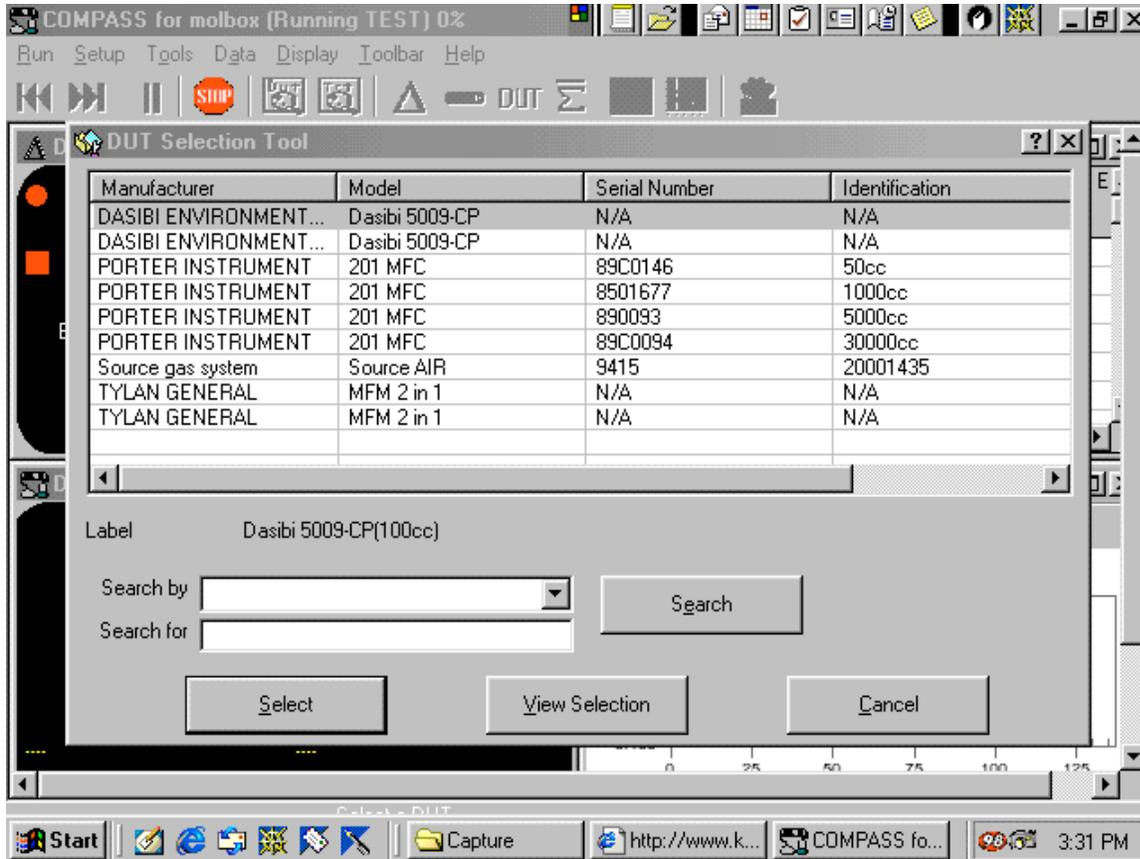

Figure 21 - Select DUT
11.4.3 Select **DUT** (Device Under Test): Dasibi 5009CP, Tylan 4 in 1, etc. (See figure 21).